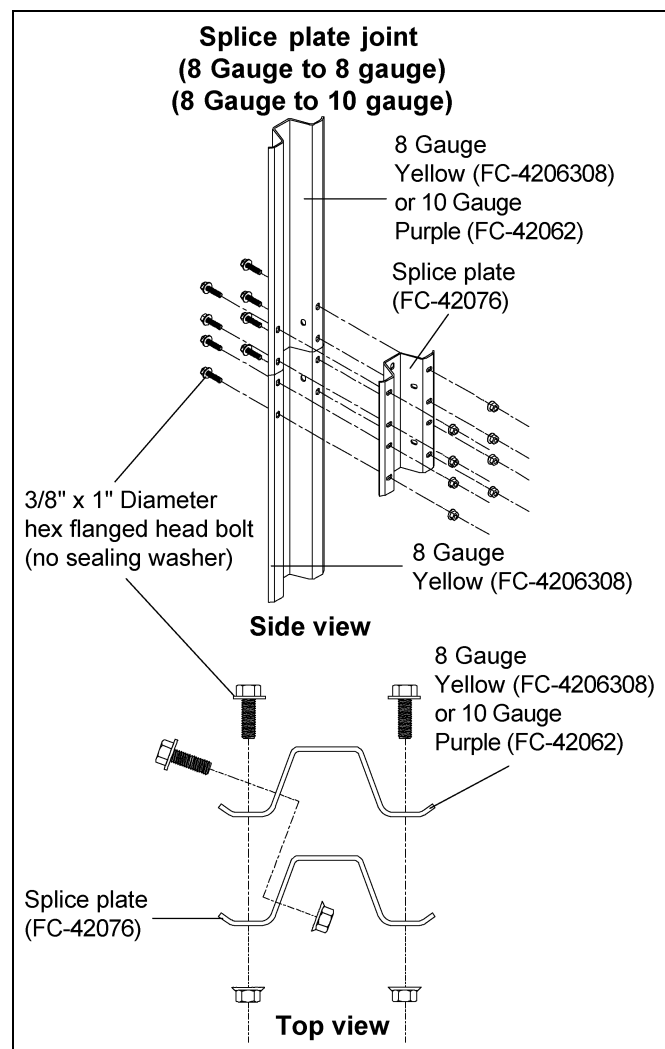

Figure 11E
3. When attaching the tops of 8 gauge stiffeners to the bottom of 8 gauge or 10 gauge stiffeners, use a separate splice plate (FC-42076). (See Figure 11E.)